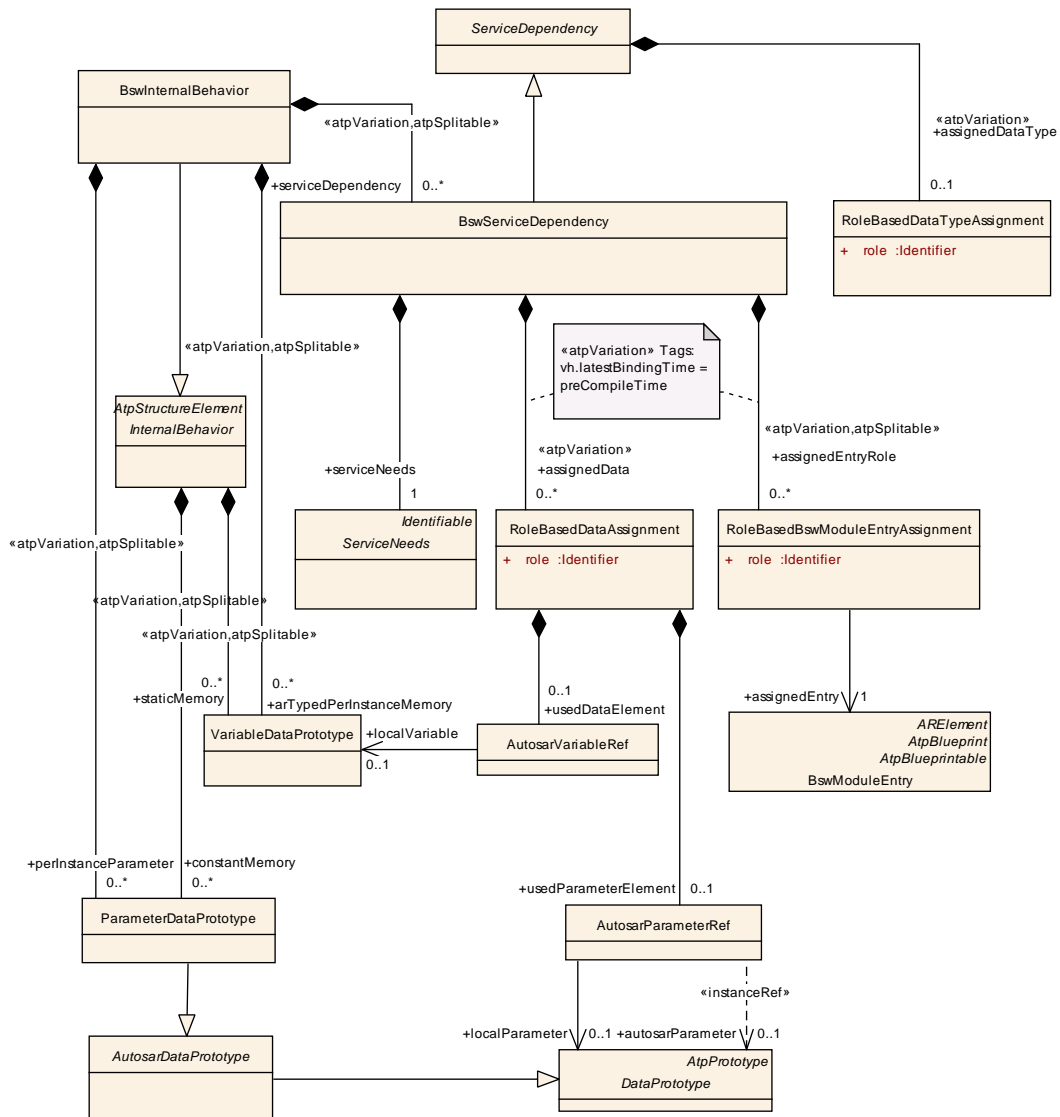

Figure 13.2: `BswServiceDependency` attached to a `BswInternalBehavior`
**[TPS\_BSWMDT\_04029] Usage of BswServiceDependency** In figure 13.2 the set of [BswServiceDependency-s represents the requirements of the module or cluster on the configuration of AUTOSAR Services like NVRAM Manager or Watchdog Manager. These requirements include not only the specific ServiceNeeds attributes, but can optionally include references to local data (for example to declare RAM mirror or ROM default data for the NVRAM Manager) or to BswModuleEntry-s (for example to declare which expected callbacks belong to a specific NvM block).] (RS\\_BSWMD\\_00045)